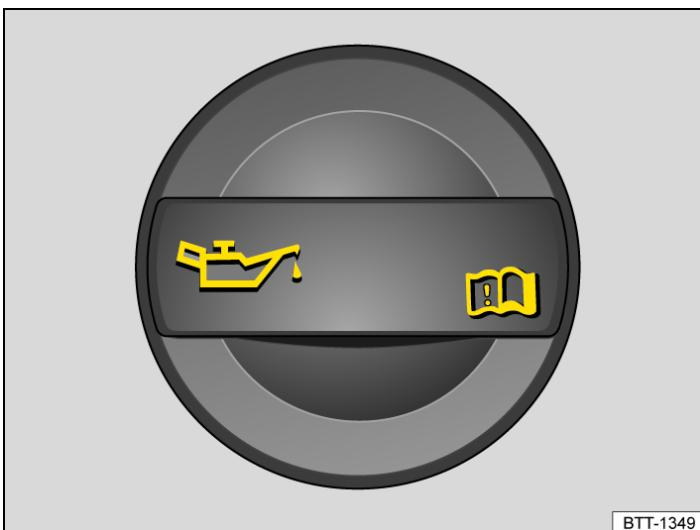

Fig. 2 In the engine compartment: engine oil filler cap (illustration).
4. Identify the engine oil filler cap and oil dipstick. The engine oil filler opening can be recognised by the symbol  on the cap and the oil dipstick has a coloured handle → Fig. 2. If you cannot find the cap and oil dipstick, please contact a qualified workshop.
- Unscrew the engine oil filler opening cap → *Fig. 2*.